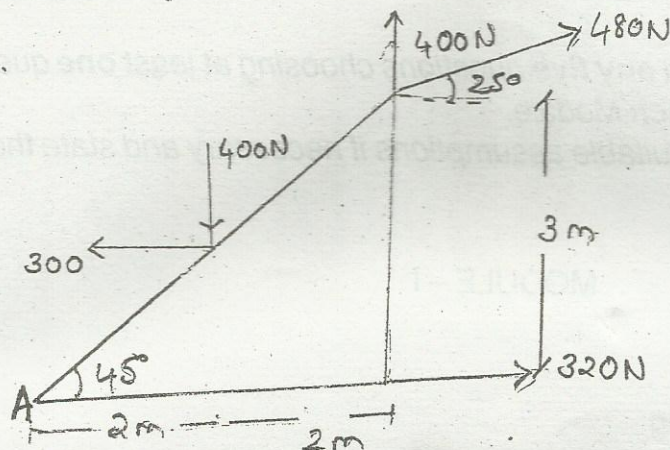

Fig. 2
- b) Five coplanar forces are acting on a triangular plate as shown. Determine the resultant locate its position from A. Refer fig. 2